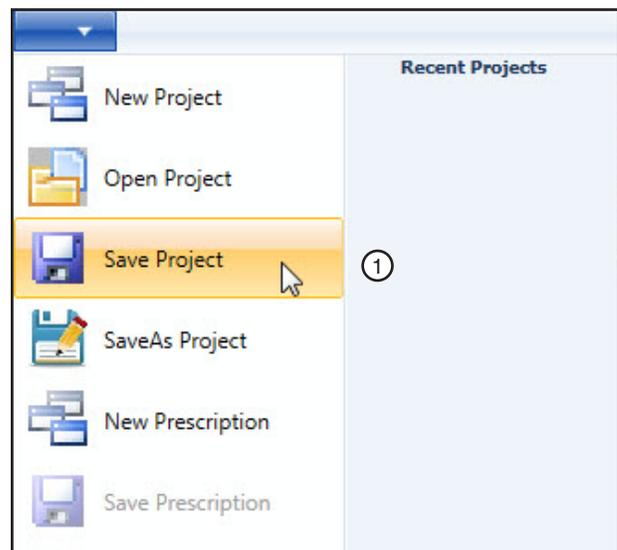

Figure 35-3 1. Save Project
3. Select **Save Project** in the VRI drop-down menu. (Refer to Figure 35-3.)